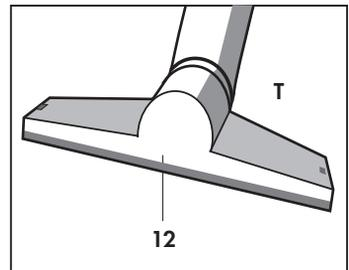

Fig. 14
- **Red switch (10):** press this switch to enable steam to be delivered through the accessory.
- **Blue switch (11):** press this switch to enable the suction of liquids or solid matter.
**MULTIPURPOSE BRUSH (T) (Fig. 14)**